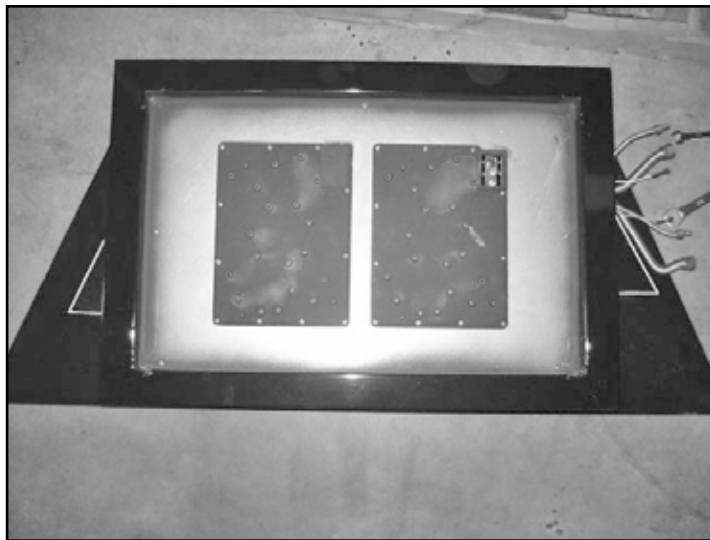

Figure 2: Line covers.
1. Position line covers on the base shield under the burner tray, one on each side. (Figure 2)